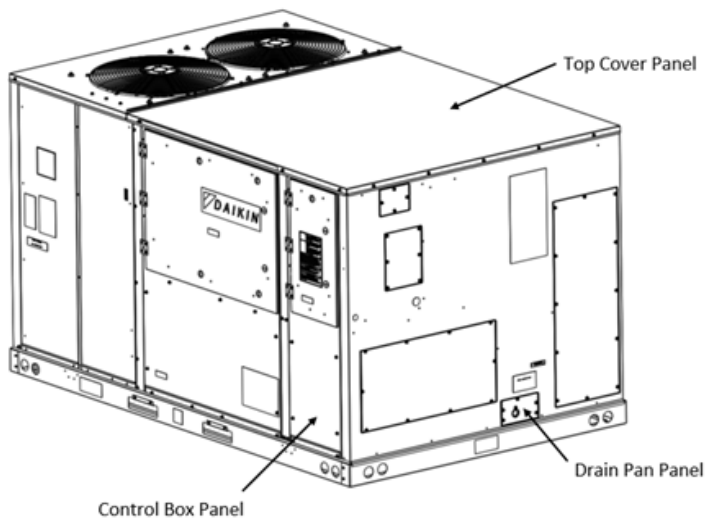

FIGURE 25
2. For DVH models, remove Panel 1, Control Box panel and Drain Pan panel from the unit. See Figure 25.